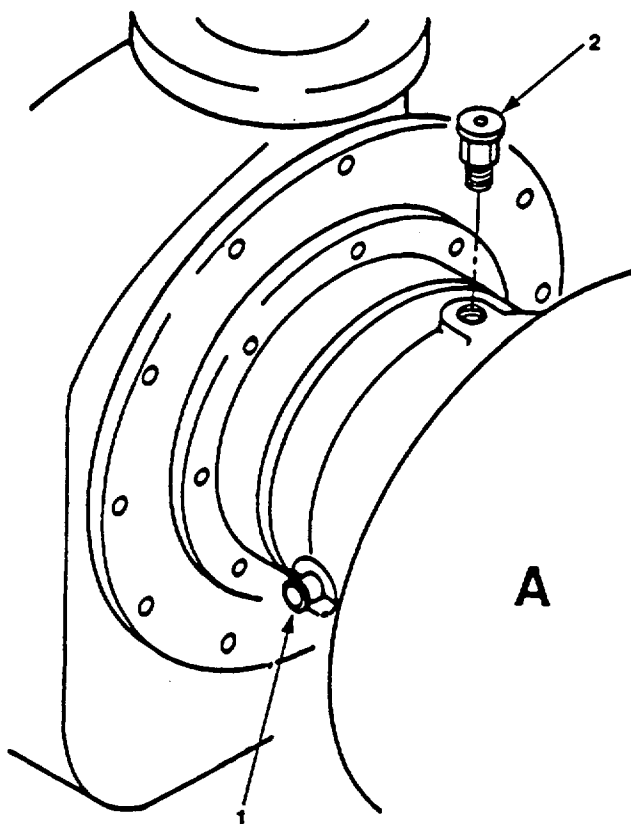

Figure 3-4. Servicing Pump Assembly.
- a. Look into sight gauge (figure 3-4, 1) to verify oil level.
- b. If oil level is low, remove vent cap (2) and fill to proper level in accordance with LO 10-4320-343-12.
- c. Install vent cap (2).